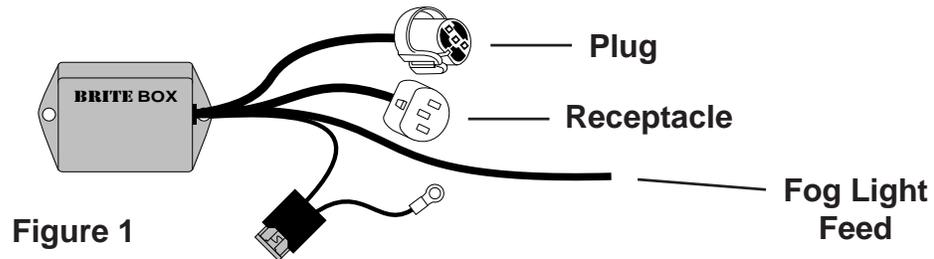

Figure 1
STEP 2: Find a location to mount Brite Box. Make sure car's headlight plug can reach the receptacle (see Fig. 1) of Brite Box, and that Brite Box's plug (see Fig. 1) can reach headlight. The red wire (attached to fuse holder) of Brite Box must also be able to reach positive (+) battery cable.
STEP 3: On the side of the vehicle where you are installing BRITE Box, remove the car's headlight plug from the headlight. Take the just removed headlight plug and fully insert it into Brite Box's receptacle (see Fig. 1).
STEP 4: Install the headlight plug (see Fig. 1) from Brite Box into your headlight. Make sure plug is fully seated.
STEP 6: Route Brite Box's FOG LIGHT FEED WIRE (see Fig. 1) to fog light on same side of truck where you installed Brite Box. Brite Box's fog light harness only needs to be connected to one fog light to work both of them. Make sure wires do not pass over any rough / sharp edges that can wear through the insulation and cause a short circuit over time. Use supplied cable ties to secure wire from fog light harness in a neat and tidy manner.